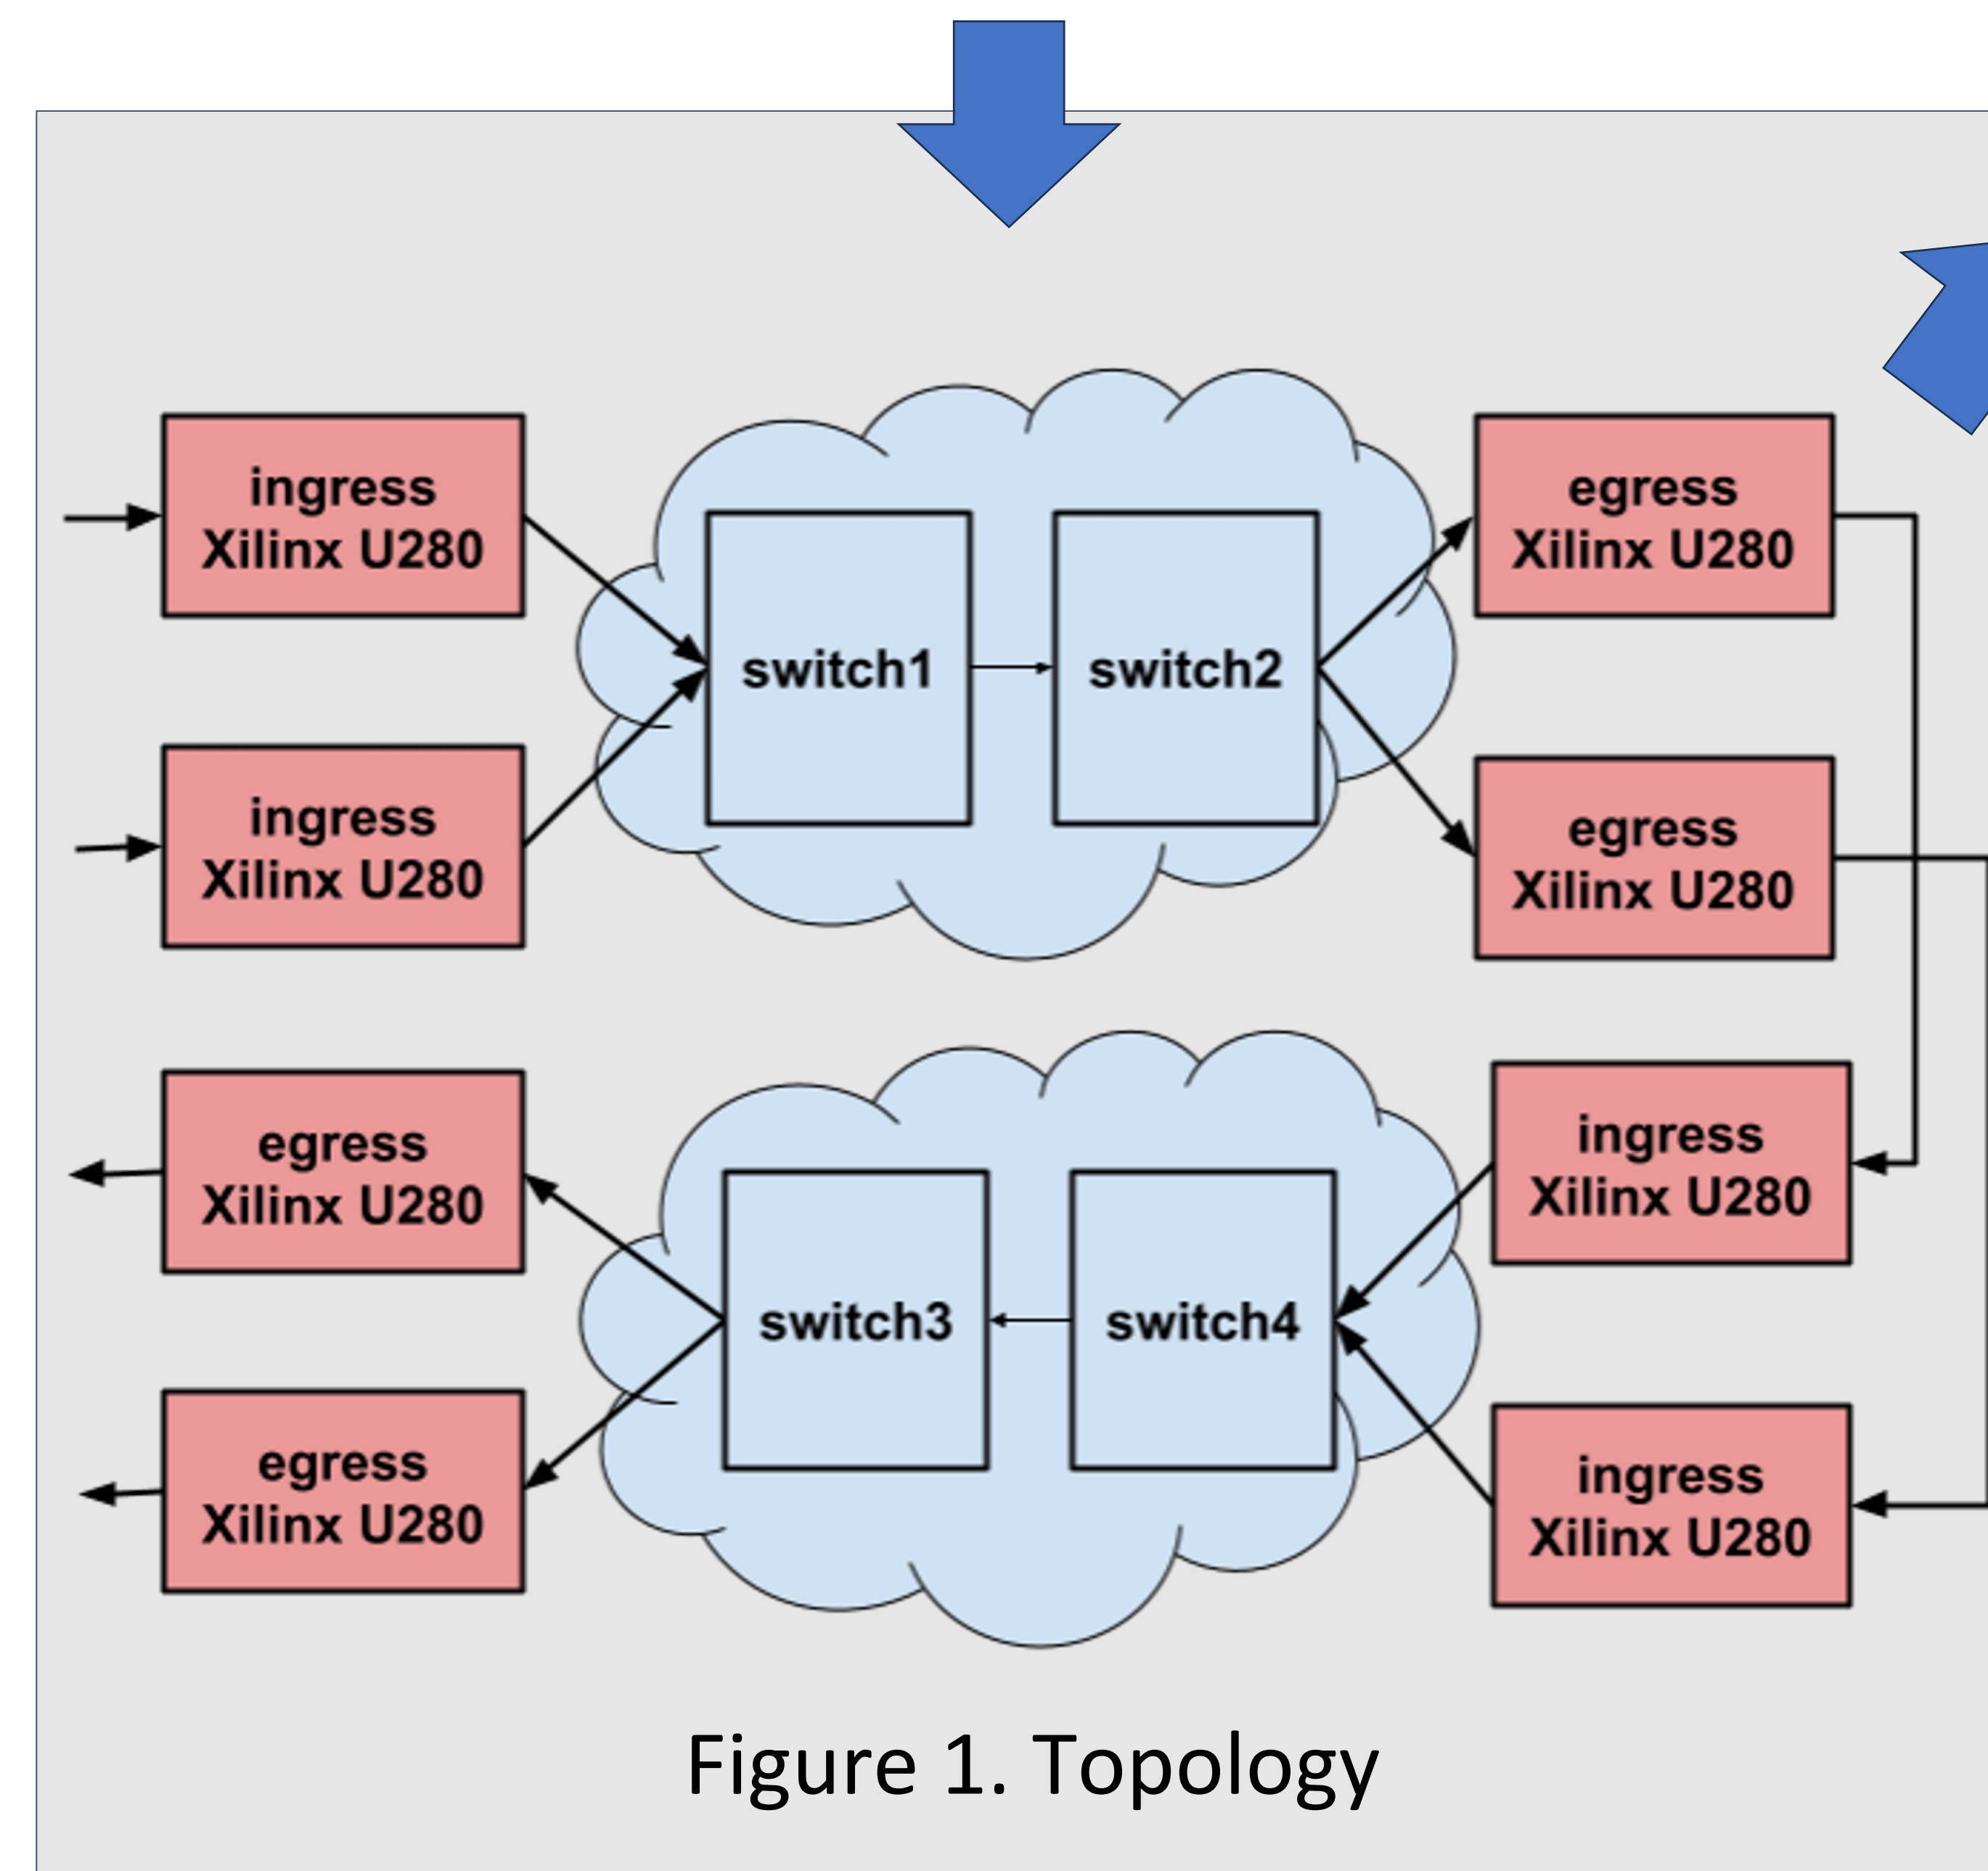

Figure 1. Topology
- We used 12 Xilinx U280s, configured as shown in Fig 1.